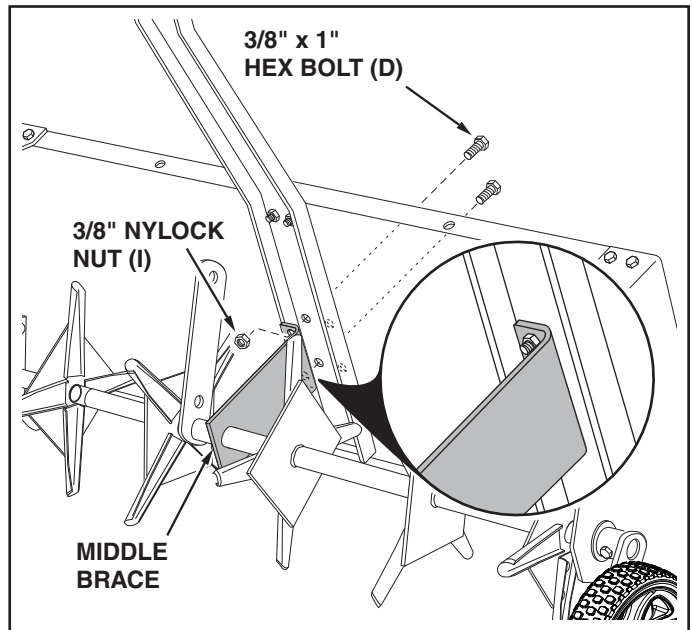

FIGURE 10
15. Tip the aerator back and rotate the middle brace up against the bottom of the tongue. Fasten it to the set of holes shown using two 3/8" x 1" hex bolts (D) and 3/8" nylock nuts (I). **Do not tighten until final step**. See figure 10.